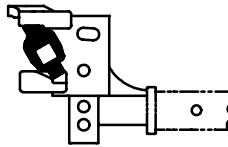

Figure 6
9. Hold the spring bar (3) perpendicular to the shank (1). Insert the upper trunnion pin into the upper pocket of the head assembly [See figure 6]. Rotate the spring bar so the lower trunnion pin passes through the entrance slot in the lower pocket of the head assembly.